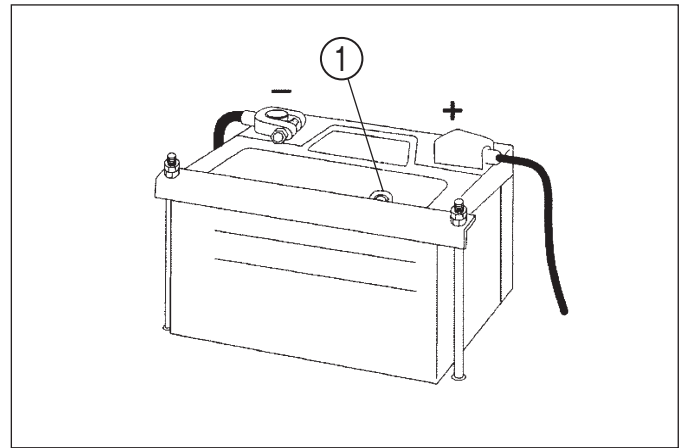

FIG. 78
FIG. 78: Battery indicator (1) with colors shows battery condition. When checking battery, park machine in a horizontal place and check the indicator at top of battery .